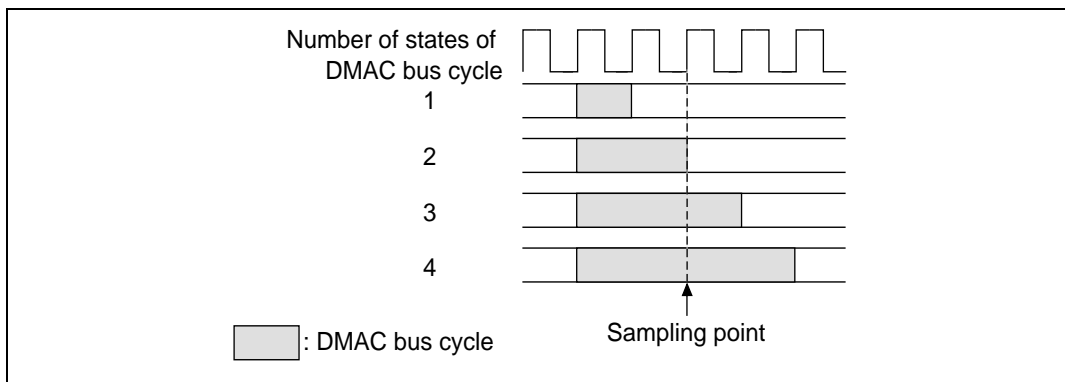

Figure 9.25 $\overline{\text{DREQ}}$ Sampling Points
As shown in Figure 9.25, sampling of $\overline{\text{DREQ}}$ is carried out immediately before the rising edge of the third-state clock (CK) after completion of the bus cycle preceding the DMA bus cycle where DACK is output.